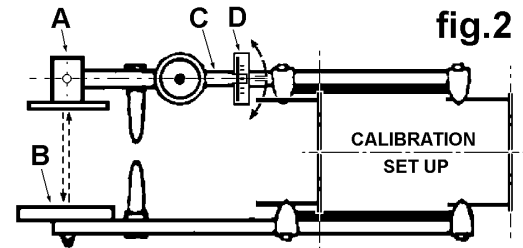

fig.2
- 4.4 When the contact bar arrangements on both units match, proceed to calibrate the gauge. ( See calibration set - up in figure 2. )
- 4.6 Move the pointer arm (see fig.2-C ) until the laser beam is visible on the vertical centre line in between the two bold arrows.
- 4.7 The lens attached to the end of the pointer arm should now be positioned over the zero mark on the graduated scale plate.( see fig.2-D ) If it is not, slacken the two wing nuts ( fig.4 ) and adjust the scale plate zero mark to co-incide with the indicator line on the lens. Retighten the wing nuts. The gauge is now ready for use in this particular situation. ( Should you proceed to use the gauge on a different vehicle requiring you to alter the contact bar settings you will need to recalibrate the gauge as just described.)